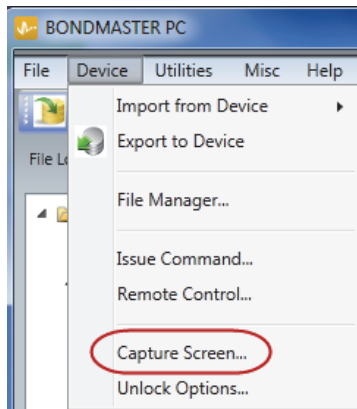

Figure 7-1 BondMaster PC Device menu
3. On the **Device** menu, select **Capture Screen** (see Figure 7-1 on page 182).